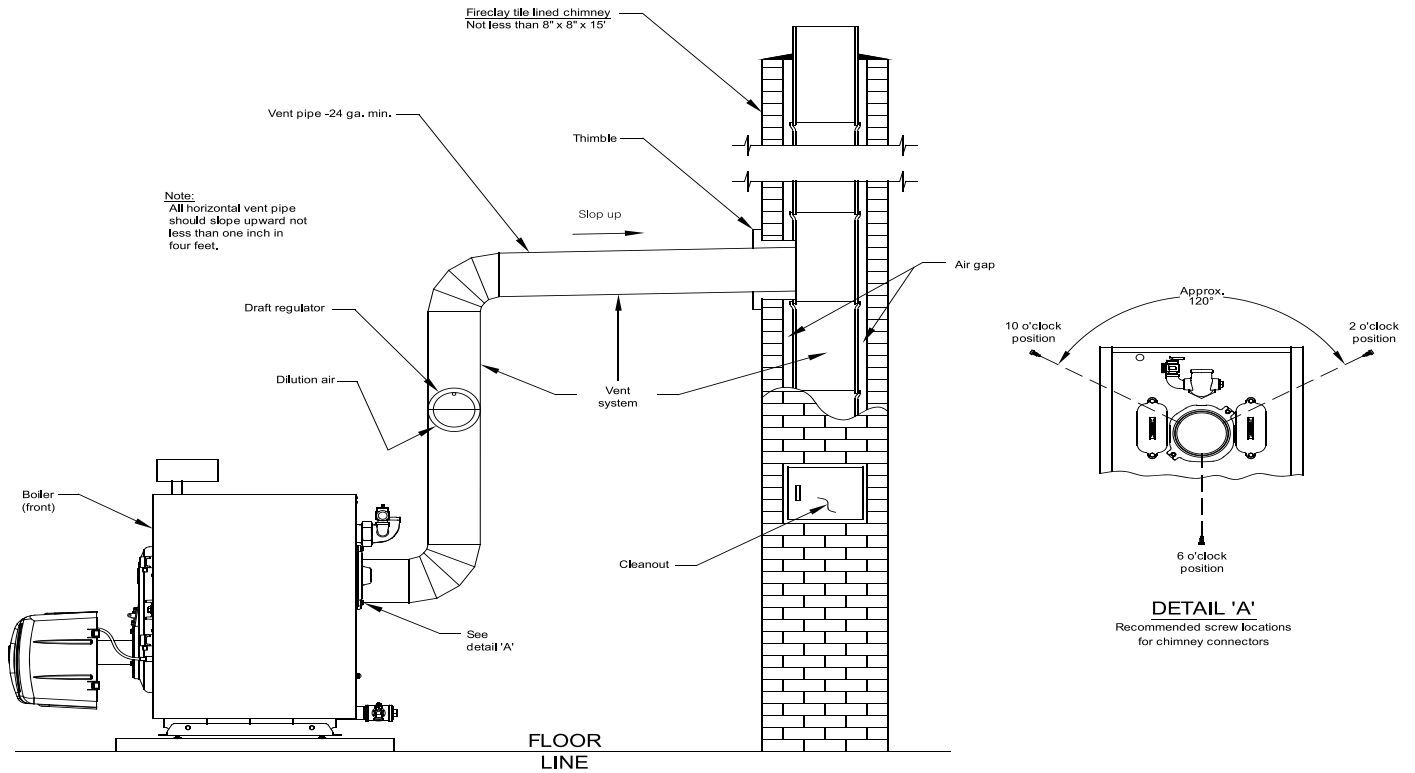

Figure 4-1: Recommended Vent Pipe Arrangement and Chimney Requirements
5. Draft Regulator – the draft regulator supplied with the boiler (or equivalent) must be used with this appliance. Refer to Figures 4-1 and 4-2.